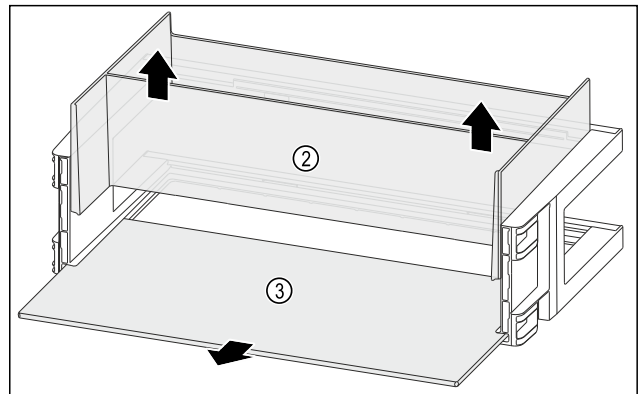

Fig. 140
- Remove the organizer Fig. 140 (2) upwards.
- Remove the shelf Fig. 140 (3).